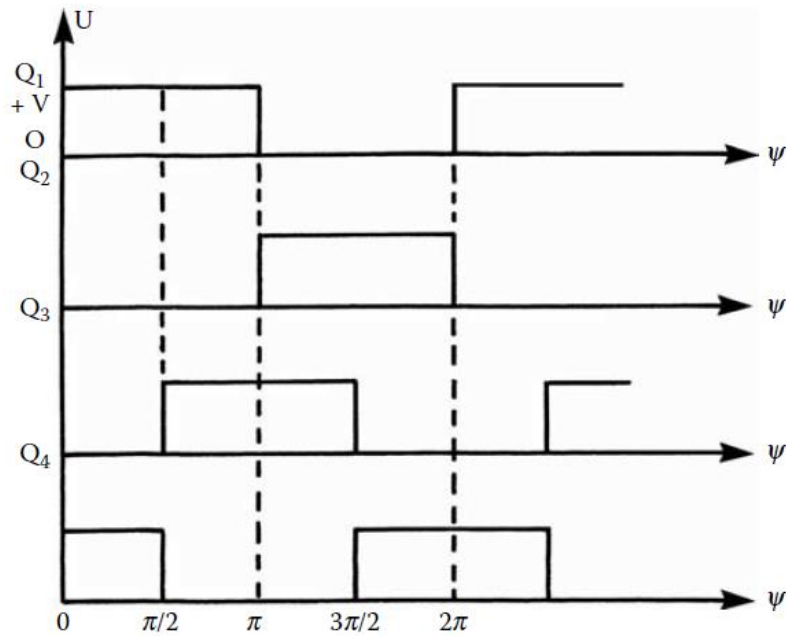

Fig. 6 Voltage waveform for unipolar driver unit
- A unipolar **controller driver unit**, in this case, a microcontroller or application specific integrated circuit (ASIC), as shown in Figure 5, **generates a series of pulses** that are organized as a sequence of voltage pulses, as shown in Figure. 6, which indicates that **only two windings can be connected to the voltage pulses at the same time.**